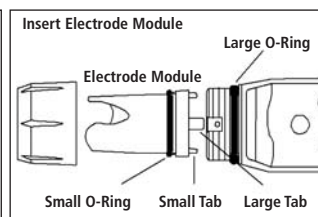

Figure 7: Example of electrode module fitting alignment
- 3 Align the four tabs on the new module so that they match the four slots on the instrument (see figure 7).